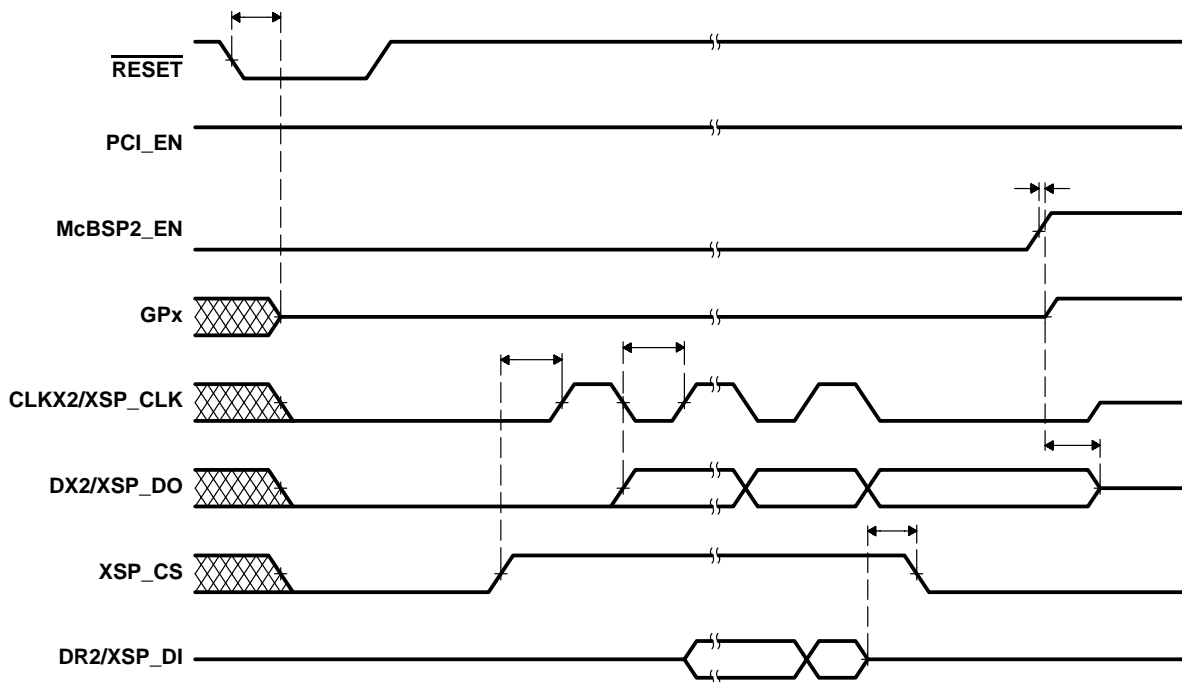

Figure 3. Interface Timing
- Add external buffers to the serial device pins that need to be in a high-impedance state when PCI EEPROM is in use. The buffer(s) can be taken out of high impedance mode by running the GPIO signal that enables McBSP2 to the buffer's enable. This will only work with the serial device's output, *not* the clock. A GPIO pin would be needed to enable the clock after McBSP2 is enabled; otherwise, bus contention could result (see Figure 3 for timing details).
Figure 3 illustrates the switch from PCI EEPROM support to McBSP2 support, when all of the requirements for the EEPROM and the serial device are met:
The actual switch between PCI EEPROM mode and McBSP2 mode is simple and is shown in Figure 3. The first step of the program is to wait until the EEPROM signals that auto-initialization has completed. Once this signal is sent, the GPIO pin of the interface (in this case, GP1) is enabled. Next, GP1 is switched to output mode from its default setting. Lastly, a 1 is written to the GPVAL register in the bit location for GP1, to enable McBSP2.